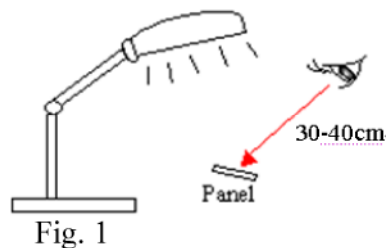

Fig. 1
- (4) The viewing angle :
- (5) Display panel shall be conducted at the distance 30~40cm between the LCD module and eyes of inspector (Fig. 1)